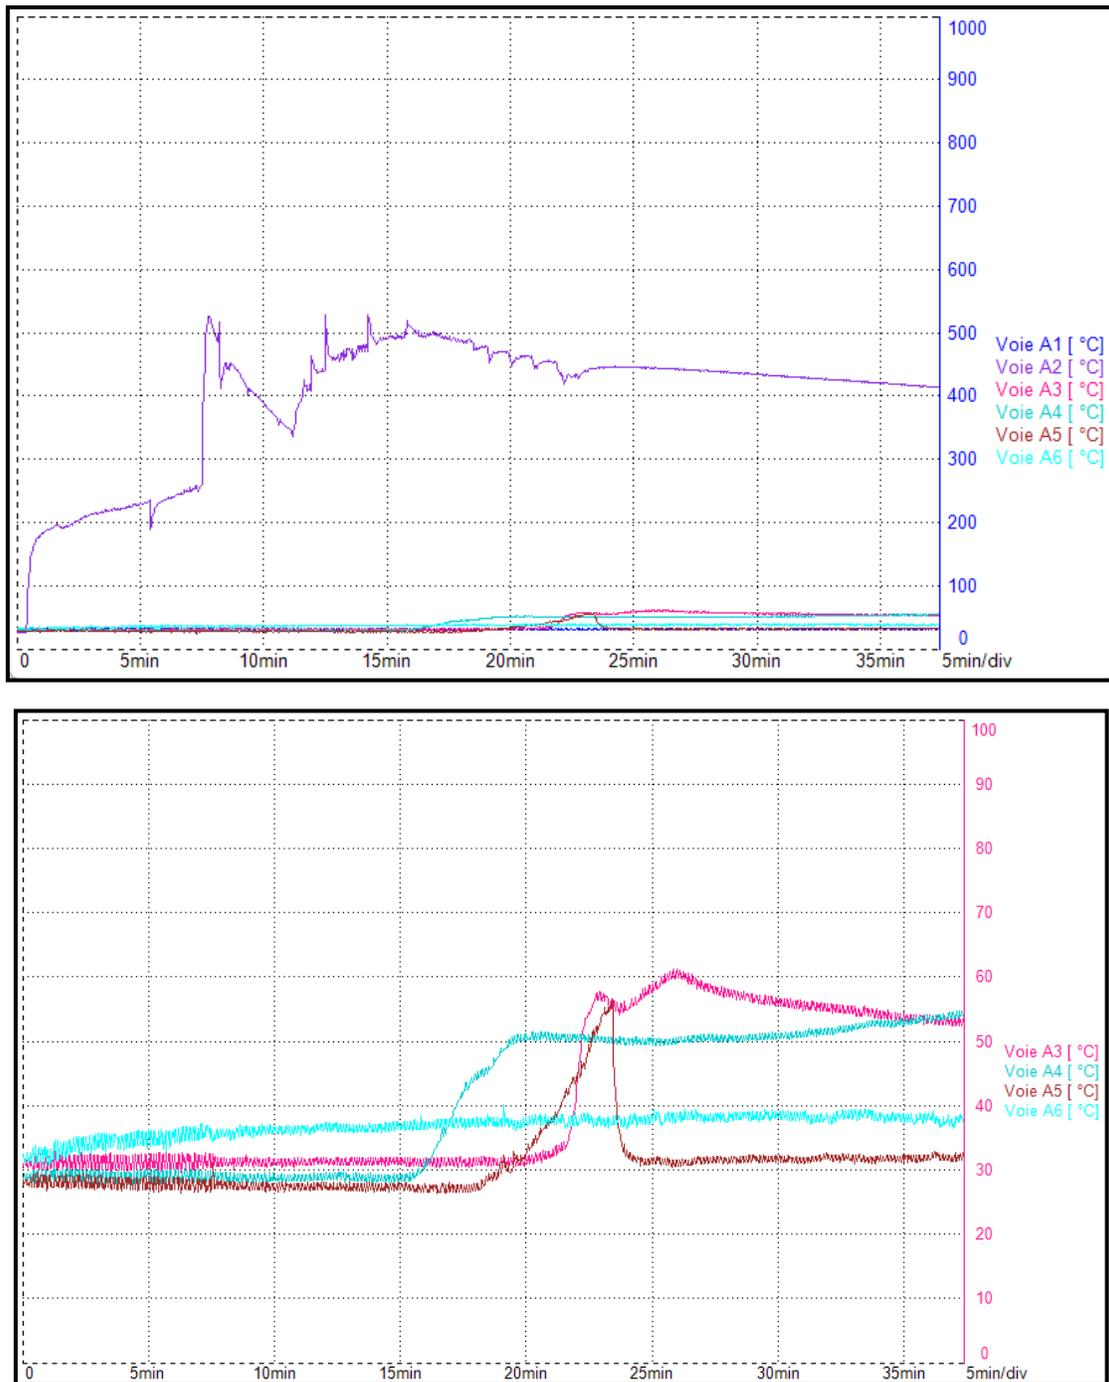

Figure 10
- Figure 10 illustrates all the temperatures measured during the test. From the legend, A1 and A2 are the temperatures of the cells intentionally set into thermal runaway (top and the bottom pack respectively). A3 is the lid temperature and A4, A5 and A6 are the temperatures of the sidewall of the 30-gallon poly drum.
- In Figure 10, the temperatures of the top pack rise well above 500°C at the time of thermal runaway. Unfortunately, the bottom pack thermocouple (A2) failed and couldn't read any data.